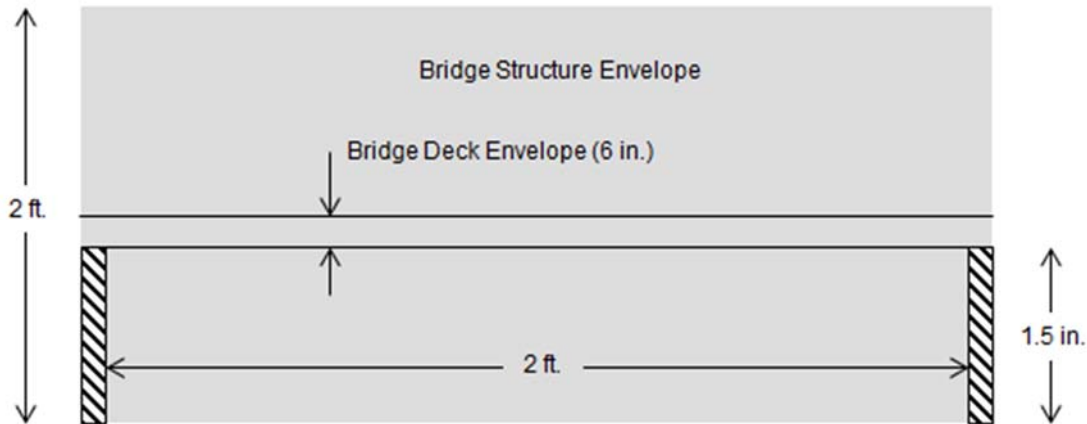

Figure 2. Bridge Supports and Geometrical Constraints
4. The beam must be designed to fit on the support shown in Figure 2. Beams may be supported off only the top surfaces of the support. Members may **not** brace off the sides or the horizontal bottom of the support.